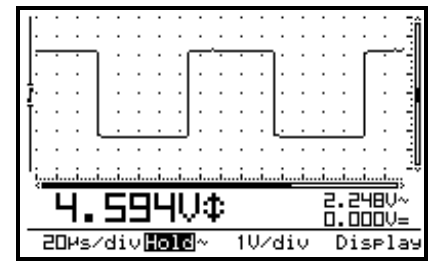

Fig 11
- A dot grid divides the screen into reference points. (Fig. 11)